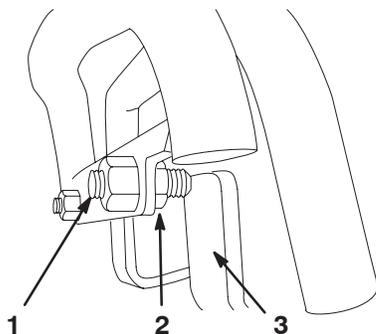

Figure 37
3. If the traction unit veers to the **left**, loosen the **right** jam nut and adjust the tracking set screw on the front of the traction control (Fig. 37).
4. If the traction unit veers to the **right**, loosen the **left** jam nut and adjust the tracking set screw on the front of the traction control (Fig. 37).